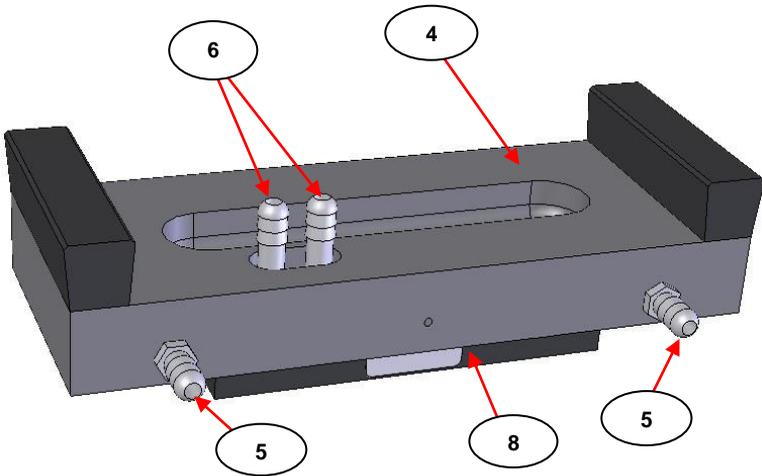

Fig 4. Thermocirculating Connection Ports on Gateway™ ATR Water Heated Trough Top Plate
To establish different temperatures of operation for measurement of a sample fluid when in contact with the ATR crystal (7) of the Water Heated Trough Top Plate, a thermocirculating fluid (water or oil) is flowed entirely around the ATR crystal (7) held within the Top Plate assembly. There are two flow connection ports (5) attached to the main body plate (4) at its rear when the Top Plate assembly is fitted to the optical unit and two flow connection ports (6) attached to the lower thermocirculating plate (8). (See Fig 4.)